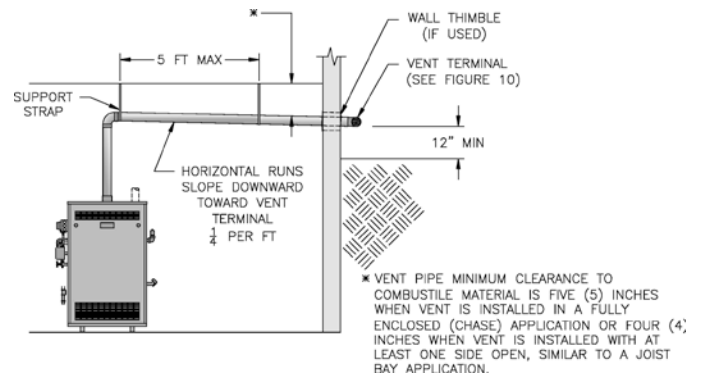

Figure 9: Horizontal Vent Installation
1. Recommended Installation: Maintain minimum $\frac{1}{4}$ inch per foot slope in horizontal runs. Slope toward vent terminal. Position weld seams in vent pipes in all horizontal runs at the top to avoid condensate from lying on the seams. See Figure 9.